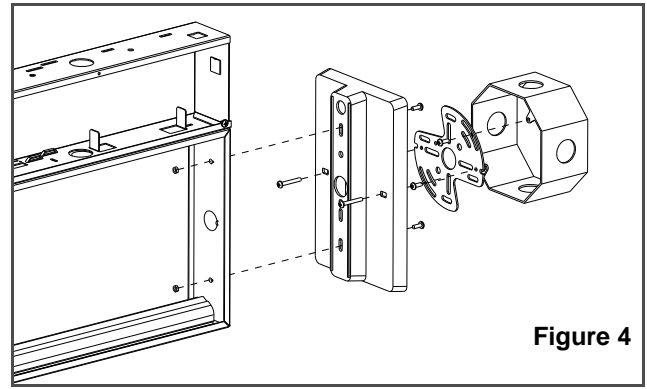

Figure 4
- e. Fasten the canopy to the exit (see fig. 4). Knock out the two holes near the wire way. Fasten the canopy-exit assembly to the spider plate using the provided 1 1/2" screws.